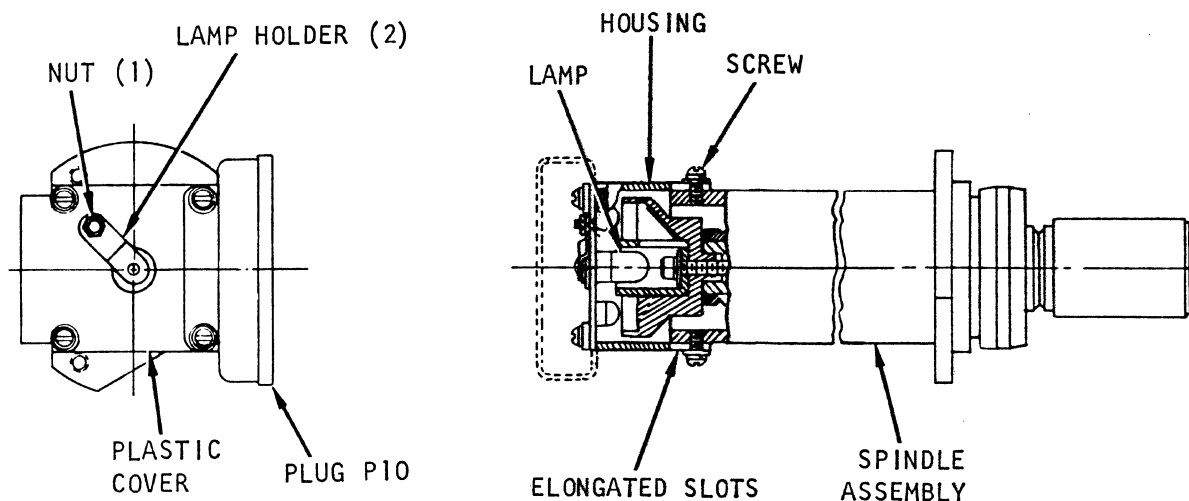

Figure 5-6. Direction Sensor
5-17. DIRECTION SENSOR. The direction sensor is shown in figure 5-6. The lamp is held in the direction sensor cavity by the lamp holder. To remove the lamp, first loosen nut (item 1) and move the lamp holder (item 2) to gain access to the lamp.